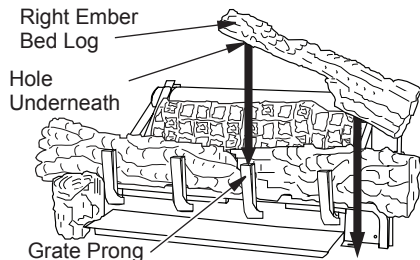

Figure 25 - Installing Right Ember Bed Log
- The right ember bed log 24" & 30" (D-047) has a hole in the log that sets on the grate finger and the other end rest on the fireplace floor, place log as shown in Figure 25. The right ember bed logs for 18" (D-072) has a groove on the side that sets on the ember bed pan and the back of the log needs to rest against the front of the base. Make sure the flame from the ember pan does not touch the ember bed log. The back side of this log needs to rest against the front of the base assembly, make sure the flame from the ember pan does not touch the ember bed log.